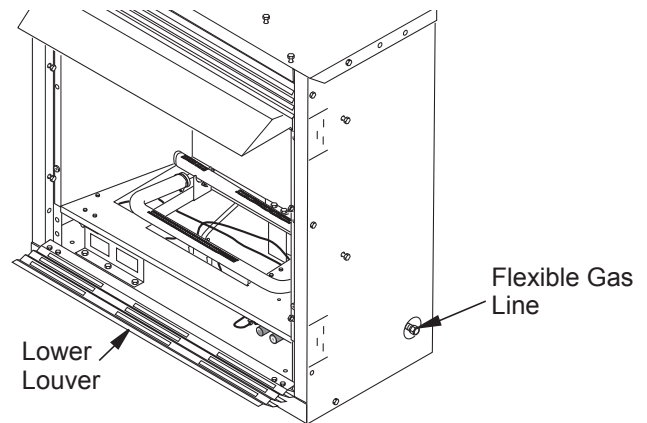

Figure 14 - Flexible Gas Line Location (Remote-Ready Unit Shown)
1. Open lower louver (see Figure 14).
4. Check all gas connections for leaks. See Checking Gas Connections, page 13. Feed flexible gas line into fireplace. Make sure the entire flexible gas line is in fireplace (see Figure 14).